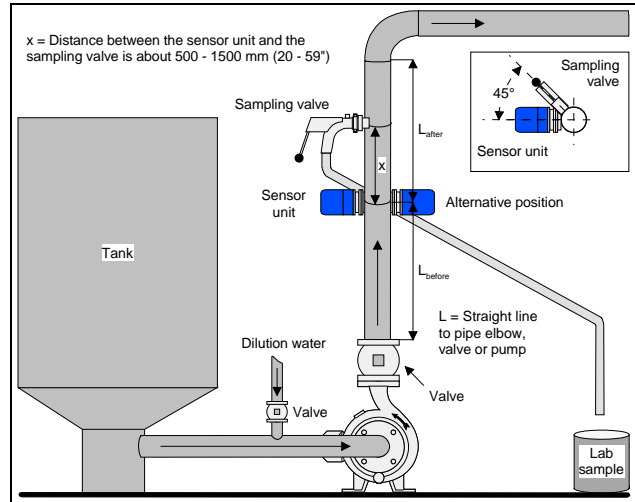

Figure 1. Installation in the vertical pipe.
- ❑ Check that pump and valve axes are parallel (fig. 1).
- ❑ Check that the sensor unit's and the pump's axes are perpendicular to each other (fig. 1).
- ❑ Check that the sampling valve is installed 500 – 1500 mm (20 – 59") after the sensor unit (fig. 1).
- ❑ Check that there is required amount (____) of straight pipeline before the sensor unit (fig. 1). Normally 3 – 10 x D.
- ❑ Check that there is required amount (____) of straight pipeline after the sensor unit (fig. 1). Normally 1 – 3 x D.